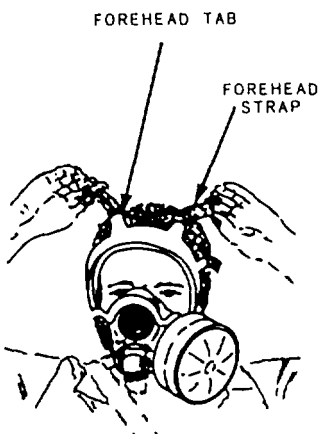

Figure 6-7.-Adjusting straps.
8. Tighten one temple strap (fig. 6-7) until the mask feels snug on that side. Tighten the other temple strap until both sides feel the same. (Tighten all straps toward the rear of the head with small jerks vice a long pull.)